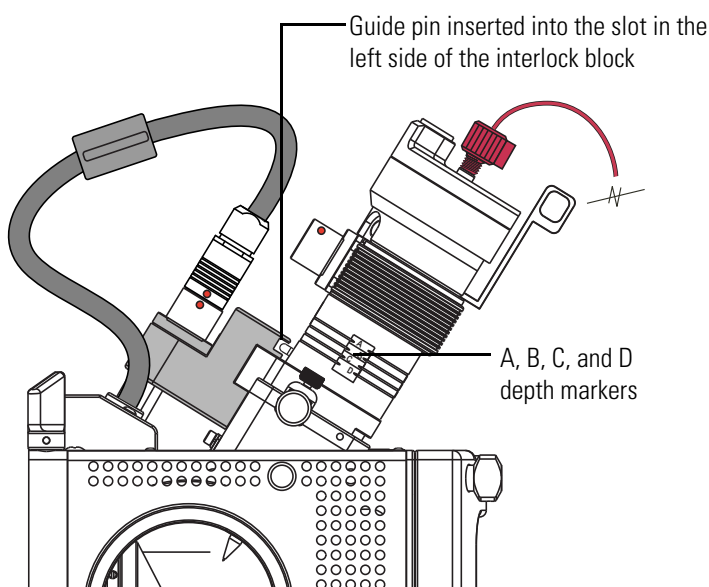

Figure 8-22. Guide pin inserted into the slot
- b. Pull the probe slightly up until the guide pin is level with the slot on the left side of the interlock block. Then turn the probe clockwise until the guide pin meets resistance from the interlock block (Figure 8-22).
- Using the A, B, C, and D markers on the probe as a guide, adjust the probe depth (see Figure 8-22 on page 8-36).